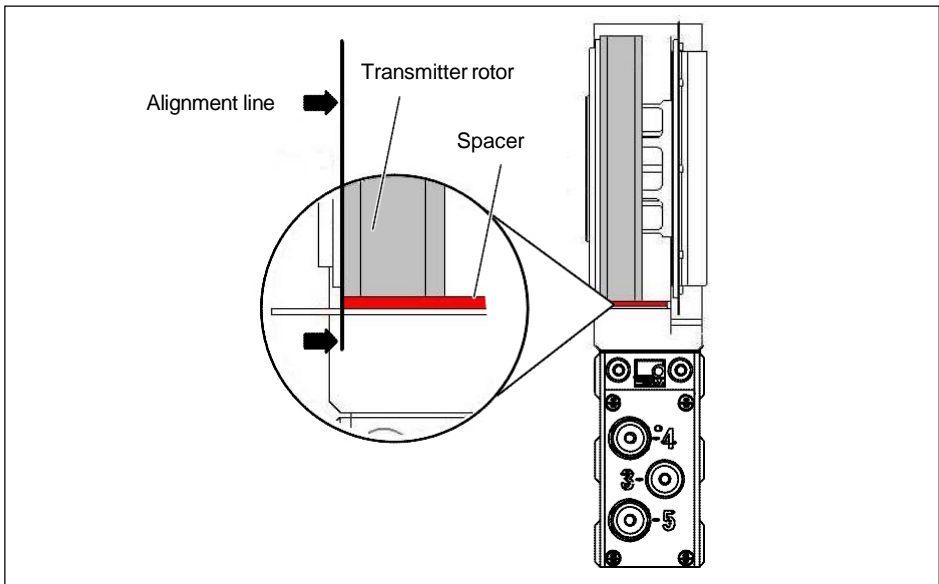

Fig. 8.18 Axial alignment to the rotor
5. Use the spacers to axially align the stator to the rotor. The rotor should be in line with the edge of the red spacer, see Fig. 8.18.